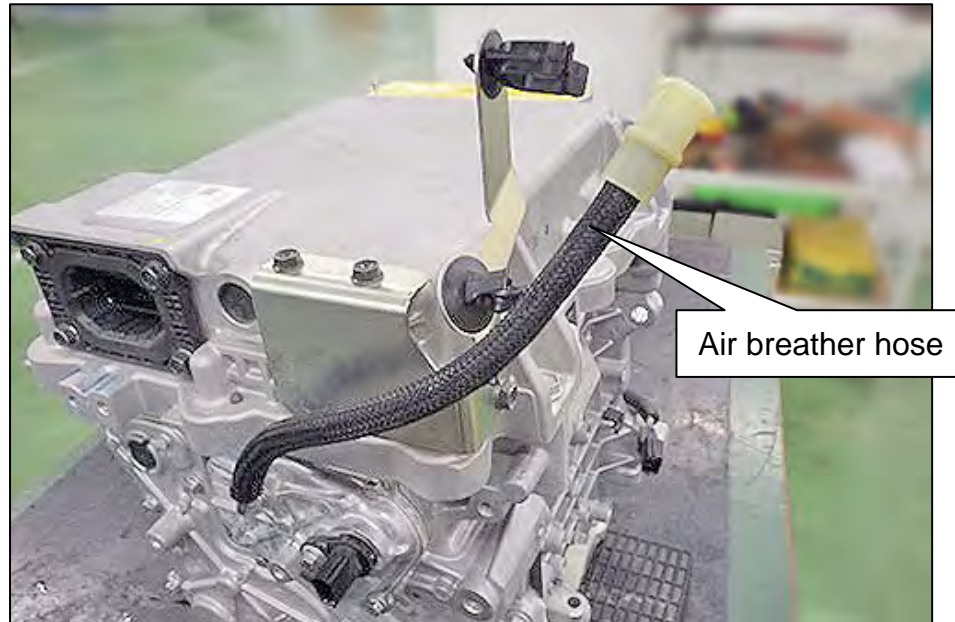

Figure 97
- Shown detached in Figure 97.